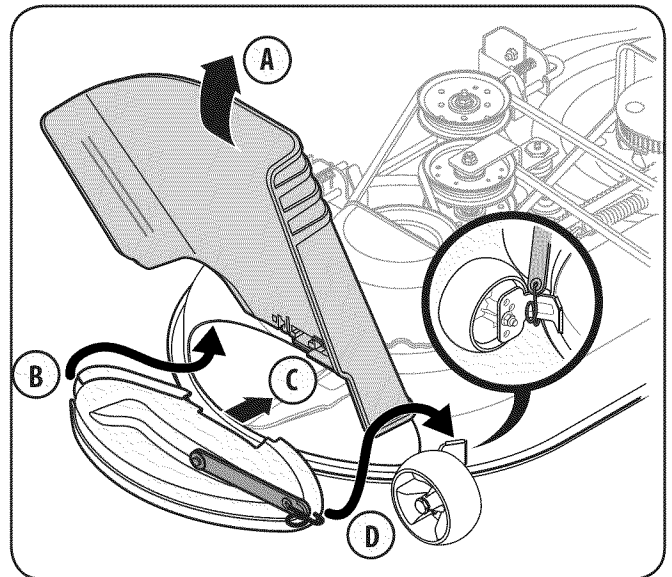

Figure 3
1. Lift the discharge chute up (A). See Figure 3.
2. Insert the mulch plug into the deck discharge opening by fitting the tab on the rear side of the mulch plug inside the tab on the deck (B) and pivoting the mulch plug into place (C).
3. Pull and stretch the retaining strap on the mulch plug over the deck wheel bracket (D) on the deck and hook onto the bottom of that bracket as seen in the inset of Figure 3.